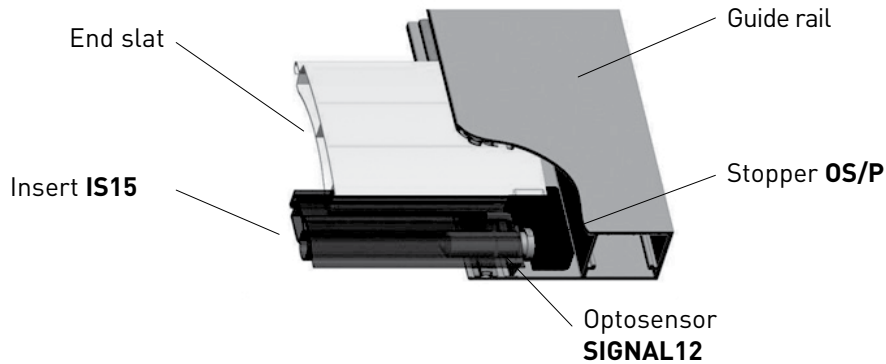

Fig. 4.2 Installation of the **OS/P** stopper for **AG/77** roller garage doors
5. Install stoppers from the **OS/P** kit according to fig. 4.2. Before clamping the stoppers, make sure they are adjoined closely to the end slat face.